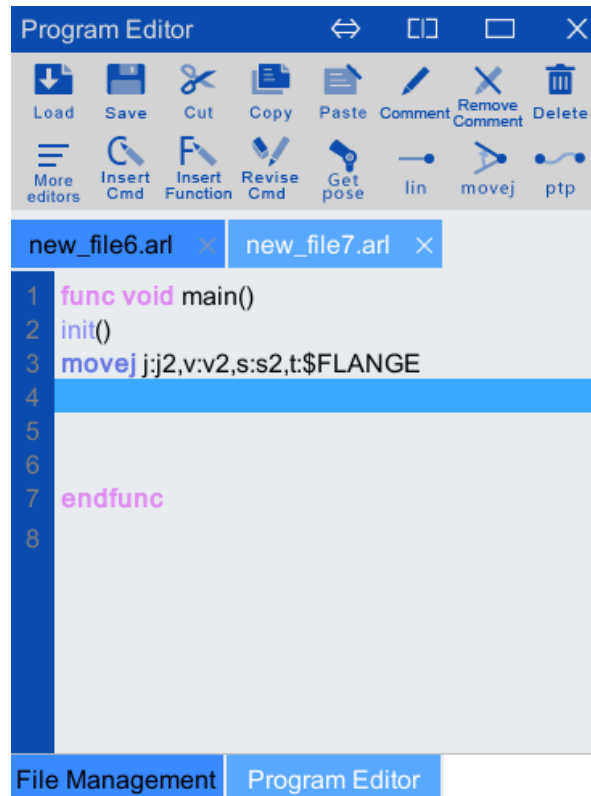

Figure 9-3 Generate movej instructions
- Step1. Open a new .arl program in the program editor, click [movej] to pop up the movej configuration interface (as shown in Figure 9-2), complete the configuration of parameters j2, v2, s2, click <insert>, the generated code is as shown in the Figure 9-3.